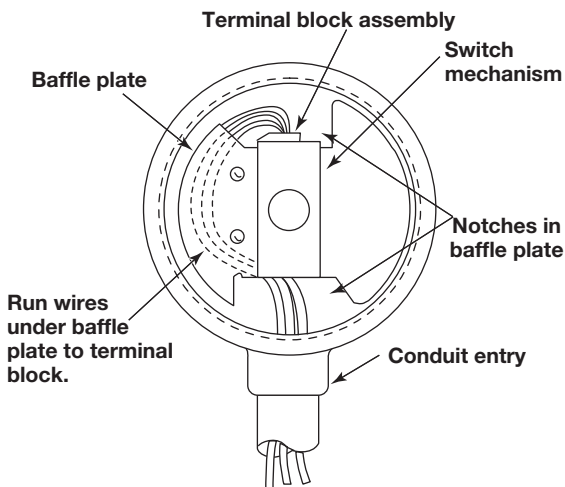

Figure 14
7. The baffle plate is notched at the front and rear for control wires to pass through. Control wires should enter through the conduit entry, pass under the baffle plate to the notch, then proceed through to the terminal block. Refer to **Figure 14**.
2. Check that the supply wires are attached to the terminal block and run under the baffle plate. Refer to **Figure 14** on page 12. Be certain that excess wire does not interfere with the actuation of the switch and that adequate clearance exists for replacement of switch housing cover.
7. The baffle plate is notched at the front and rear for control wires to pass through. Control wires should enter through the conduit entry, pass under the baffle plate to the notch, then proceed through to the terminal block. Refer to **Figure 14** on page 12.